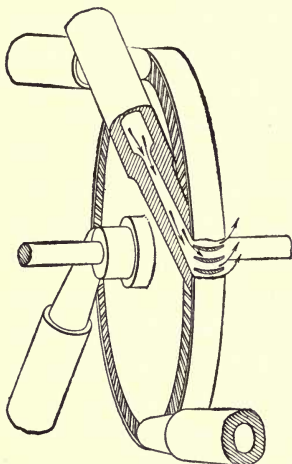

FIG. 171.—Steam Turbine.
**379. Turbines.**—We have already seen the uses of water wheels or water turbines. Steam turbines (Fig. 171) consist of a wheel with blades. The steam, in the form of jets, strikes against the blades and moves the wheel. This machine was invented to overcome the backward and forward (reciprocating) movement of the piston, which jars and shakes the engine.